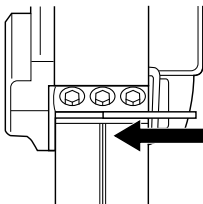

Fig. 7
- (2) As shown in **Fig. 7**, mount the new carbide blade by sliding it on the set plate (B) so that the blade tip projects by 1mm from the end of the cutter block.